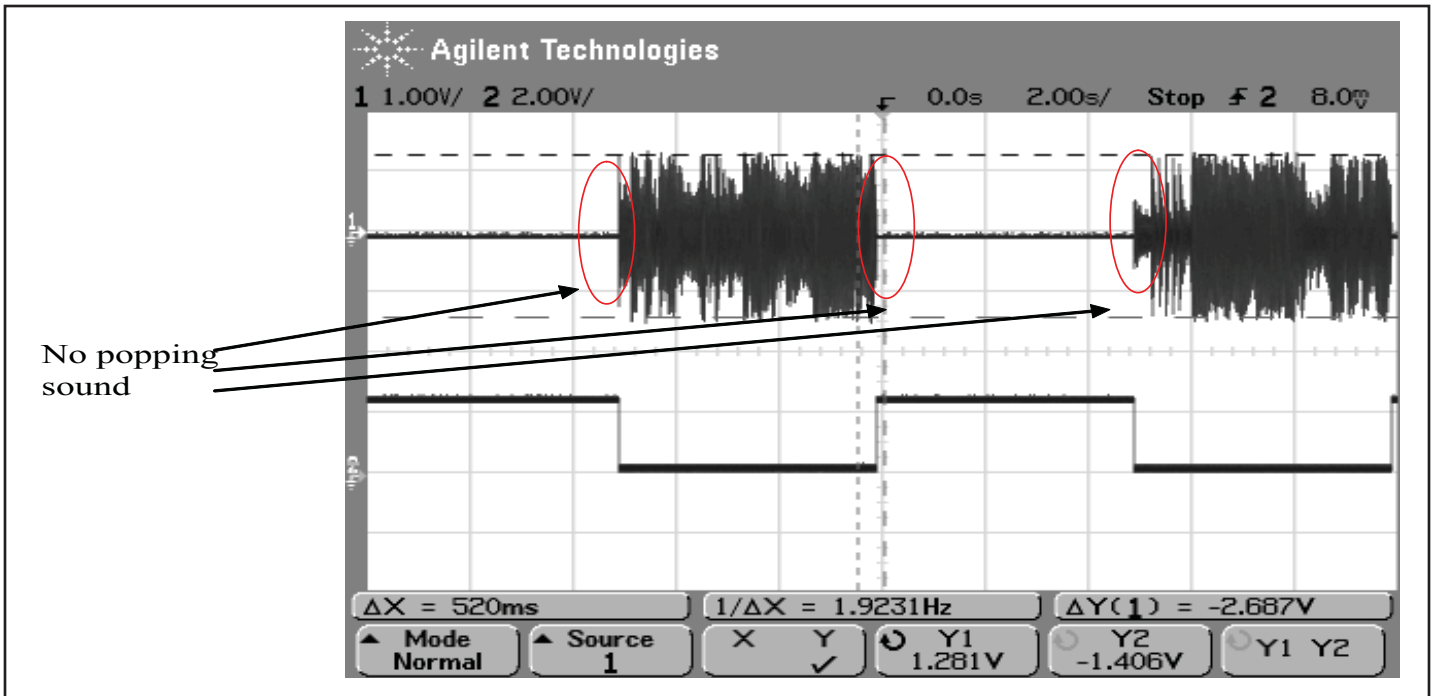

Figure 11: Pop sound elimination with AC coupling capacitor placed before PI3USBA201
- b. When placing AC coupling capacitor, pop sound is eliminated. Please refer to Figure 11.